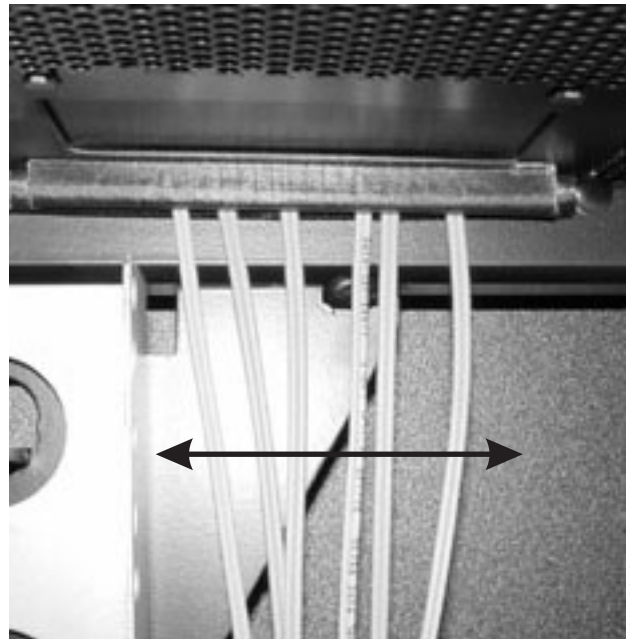

Figure 24. Positioning the Fibre Channel cable inside the frame
6. After you route the cables inside the frame, position them as shown in Figure 24 on page 110